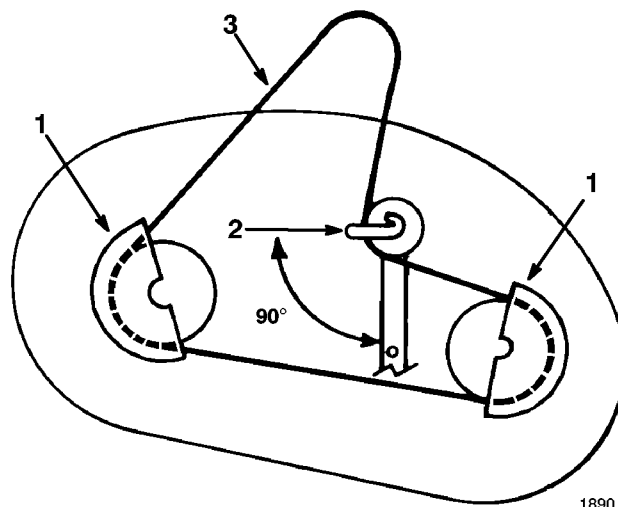

Figure 48
2. Remove the pulley cover mounting screws and pulley covers from both blade pulleys (Fig. 48).
3. Loosen, but do not remove the bolt and nut securing the idler pulley and belt guide (Fig. 48).
2. Position the idler pulley belt guide so it points toward the left, 90° to the idler arm (Fig. 48). Tighten the mounting bolt and lock nut securing the idler pulley and belt guide.
3. Install the left and right pulley covers with the mounting screws (Fig. 48).